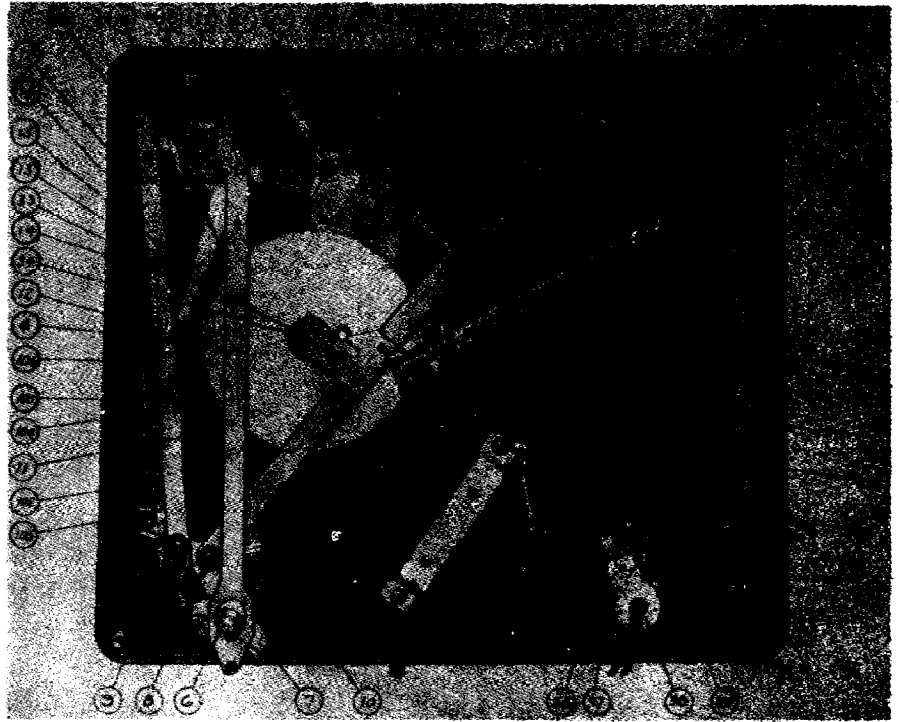
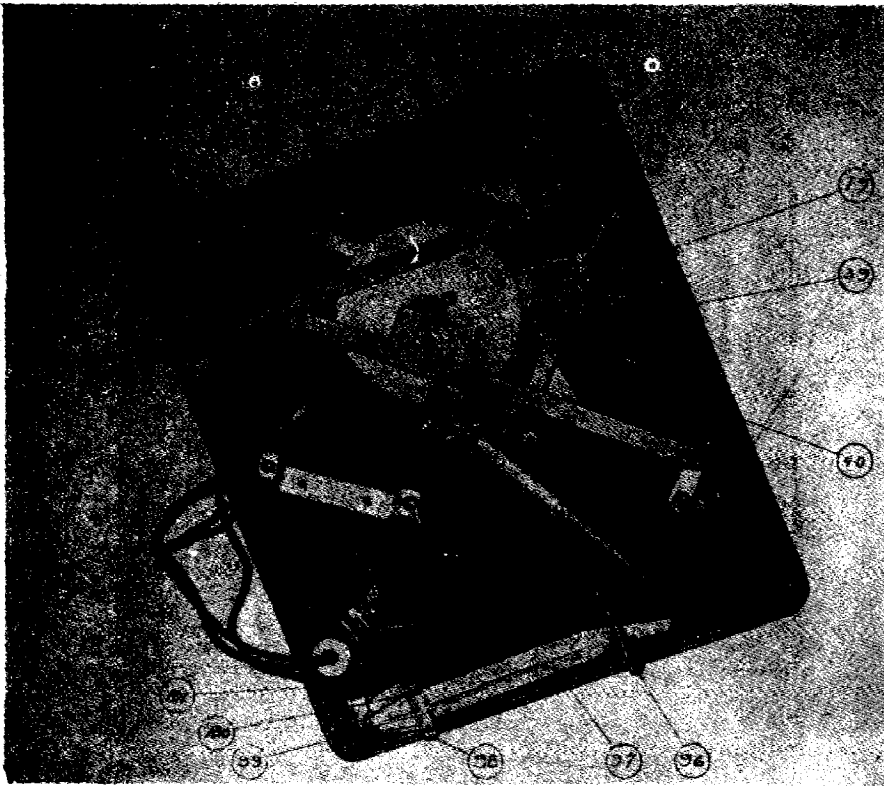
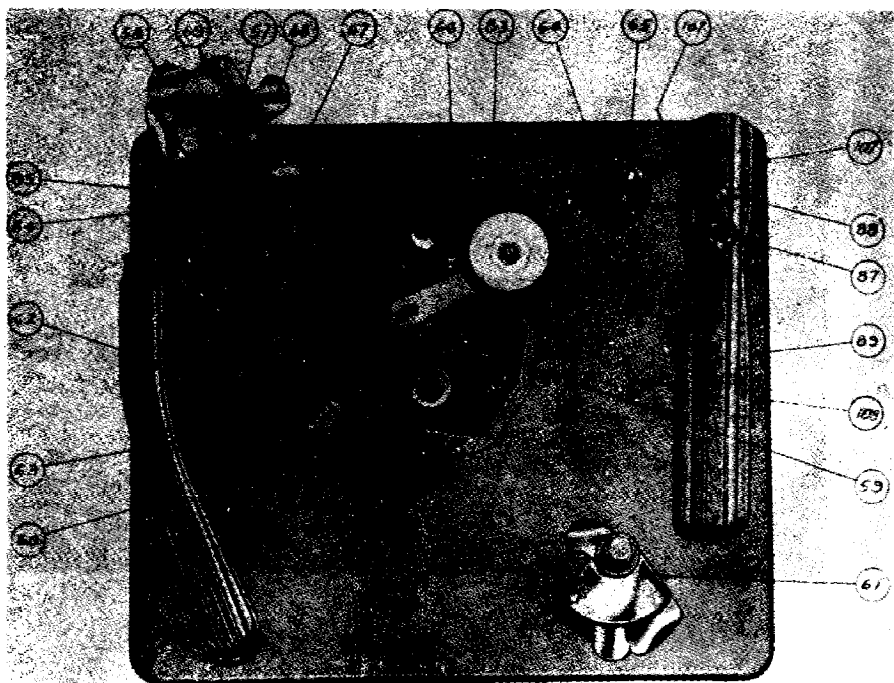

Fig. 1
Fig. 2
Fig. 4
1. Swing tone arm outward until tone arm lever assembly, (Item 19, Fig. 1) latches with tone arm latch lever, (Item 18, Fig. 1) which is held to tone arm shaft, (Item 77, Fig. 1) by two setscrews.
2. Make sure these setscrews are tight and that there is a slight play between the tone arm lever assembly and the panel, (Item 5, Fig. 1). This will give proper clearance at ball race assembly, (Item 74, Fig. 3).
The tone arm lever assembly, (Item 19, Fig. 1) is held against tone arm latch lever, (Item 18, Fig. 1) by the tension of tone arm locator lever spring, (Item 16, Fig. 1).
4. Now move tone arm, (Item 60, Fig. 4) until its outside edge is 1/8" from the outside edge of the panel (Item 5, Fig. 1) and retighten screw securely.
If the Record Changer does not go into its changing cycle when the needle has reached the above mentioned distance, the Tone Arm Trip Lever Shoe, (Item 23, Fig. 1), should be moved toward the outside edge of the panel. To do this, it is necessary to loosen the thumb nut, (Item 22, Fig. 1), and then retighten after adjustment has been made.
2. Check Trip Rod, (Item 32, Fig. 1), to make sure it releases Trip Lever Assembly, (Item 20, Fig. 1), from Engagement Clutch Cam Assembly, (Item 79, Fig. 2), when Switch Knob is being turned on. If Trip Lever Assembly is not released, Trip rod should be shortened by bending until Trip Lever clears Engagement Clutch Cam Assembly, when Switch Knob is turned.
3. Make sure that Clutch Reset Pawl, (Item 40, Fig. 2), clears Drive Link Assembly, Item 31, Fig. 1.
(A) Trip Lever Assembly (Item 20, Fig. 1) does not latch in Engagement Clutch Cam Assembly (Item 79, Fig. 2), which may be due to causes listed below:
1. Trip Rod (Item 32, Fig. 1), may be bent so that it is too short, holding Trip Lever Assembly from contacting Engagement Clutch Cam Assembly.
2. Springs (Items 24 or 35, Fig. 1) may be disconnected.
1. Muting switch (Item 26, Fig. 1), may be out of adjustment. The contacts of this switch should be open whenever its long blade is not resting on the shoe of the Engagement Clutch Cam Assembly (Item 79, Fig. 2). If the contacts remain closed after the long blade has left the shoe, they should be adjusted by bending until there is a separation of approximately $1/32$ ".
4. Set Rod (Item 56, Fig. 3) is operated by Selector Arm (Item 61, Fig. 4). The 12" Set Link (Item 10, Fig. 1) operates as a stop when Record Changer is set for 12" records. When Tone Arm Locator Assembly (Item 12, Fig. 1) contacts 12" Set Link the Tone Arm should be in the correct position to play a 12" record.
If at this point, the position of Tone Arm is incorrect, loosen the screw which holds the Tone Arm Locator Shoe 12" (Item 14, Fig. 1) and move in either direction as required and tighten screw.
3. Note where needle contacts record. Correct contacting is about 1/8" from the outside edge of record. If contacting of needle is not correct as mentioned, loosen the screw which holds Tone Arm Locator Shoe 10" (Item 15, Fig. 1) and slide shoe in or out as required, then tighten screw.
Check clearance between Roller (Item 51, Fig. 3) and Selector Crank Shaft Assembly (Item 7, Fig. 1). There should be approximately 1/32" clearance at this point. If the clearance is greater, it would be due to the pressure on the Spring Washer (Item 50, Fig. 3) being too great. This will prevent the Tone Arm Lifter Reset Spring (Item 82, Fig. 3) from returning the Tone Arm Lifter Link Assembly (Item 81, Fig. 2) sufficiently. To relieve the pressure on the Spring Washer, lower the Selector Shaft Collar (Item 6, Fig. 1) slightly.
If the Tone Arm lowers too suddenly, the Spring Washer (Item 50, Fig. 3) which is located between the Tone Arm Lifter Link Assembly (Item 81, Fig. 2) and Selector Shaft Crank Assembly Post (Item 7, Fig. 1) is not under sufficient pressure. The setscrews in the Selector Shaft Collar (Item 6, Fig. 1) should be loosened and the Selector Shaft Collar pressed upward slightly and set screws tightened.
When Manual Control Button (Item 84, Fig. 4) is moved to the Manual Play-Back recording position, it moves the Manual Control Slide (Item 102, Fig. 1) which in turn moves Clutch Lock Slide (Item 103, Fig. 1) into a position which prevents Engagement Clutch Cam Assembly (Item 79, Fig. 2) from rotating. When Engagement Clutch Cam Assembly is in the above mentioned position and is not free to rotate, the Changer will not go into its changing cycle.
Also when the Manual Control Button is in the above mentioned position, the Manual Control Slide has moved the Locator Lock Slide (Item 106, Fig. 1) into a position where it engages the Tone Arm Locator & Bushing Assembly (Item 12, Fig. 1) and prevents same from bearing against Tone Arm Lever Assembly (Item 19, Fig. 1) allowing the Tone Arm to swing freely without hindrance and without setting Changer into its changing cycle. When the Manual Control button is in the automatic position the Changer will function normally as an automatic record changer.
- (A) Threads from record cuttings getting down onto Rubber Idler drive wheel (Item 83, Fig. 4) and between drive wheel and motor pulley. This will cause very bad speed variation of the turntable and, of course, will result in very inferior recording. Cuttings may also wrap around motor shaft and cause motor to slow down or stop.
- (B) Tight pivot bearings: Check cartridge pivot screw (Item 108, Fig. 4) for binding. Also recording arm pivot screw (Item 107, Fig. 4) and Traverse arm pivot screws (Item 101, Fig. 2). These bearings should all be free, but have no looseness or play.
If the pivot screw, (Item 108, Fig. 4) of the Cutter Cartridge is tight, the Cutter Cartridge cannot follow a
- (C) Damaged Rubber Idler Drive Wheel (Item 83, Fig. 4)
- (D) Vibration Reaching the Recorder While A Blank is Being Recorded: It is very important the floor or the surface upon which the Recorder rests remain quiet as any vibration such as people walking across the floor or shaking of the instrument in which the Recorder is mounted will seriously effect the quality of the finished recording.
- (E) Recorder Not Level: It is very important that the Recorder is standing level. This can be checked by placing a small level on the turntable and checking same in two positions at right angles to each other and then leveling instrument in which Recorder is mounted.
- (F) **Bent or Damaged Turntable Spindle:** If the Turntable Spindle (Item 59, Fig. 4) has been bent in shipment, or by someone exerting a heavy pressure on one side, it should be replaced with a new one. A bent Turntable Spindle will cause the surface of the Turntable to move up and down while it is turning and, of course, will seriously effect the quality of both recording and play-back.
- (G) **Record Cuttings Causing A Bind Between Turntable Spindle (Item 59, Fig. 4) and Its Bearing:**
- (H) **Tension On Rubber Idler Drive Wheel (Item 83, Fig. 4) Too Great:** If the tension on the Rubber Idler Drive Wheel is too great, this will result in a "wow" or a rumble in the recording. To decrease the tension on Rubber Idler Drive Wheel, loosen the screw holding the lug which is located beneath the Rubber Idler Drive Wheel and turn it slightly in a clockwise direction. This will reduce the spring tension on the Rubber Idler Drive Wheel. When the spring tension is correct, the spring will be approximately at right angles to the lug.
- (I) **Tension On Rubber Idler Drive Wheel (Item 83, Fig. 4) Too Weak:** This will cause very bad speed variation. Turntable will slow down and then speed up as audio current of varying intensity reaches the cutter cartridge.